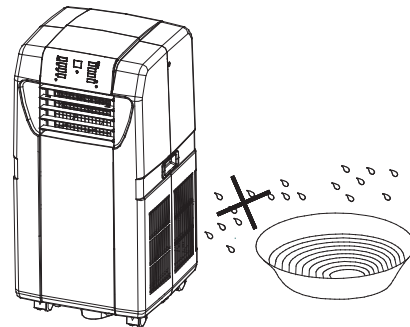

FIG.3
- DO NOT USE THIS UNIT IN EXCESSIVELY HUMID OR WET ENVIRONMENTS (FIG. 3).